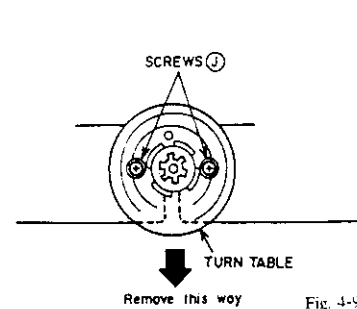

Fig. 4-9
- 1) Remove two fixation SCREWS ⑩ of the SPINDLE MOTOR through the hole on the TURN TABLE as shown Fig.4-9.